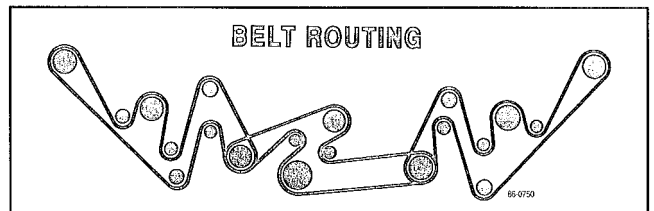

Figure 70
10. Route new belt around appropriate pulleys as shown in figure 70.